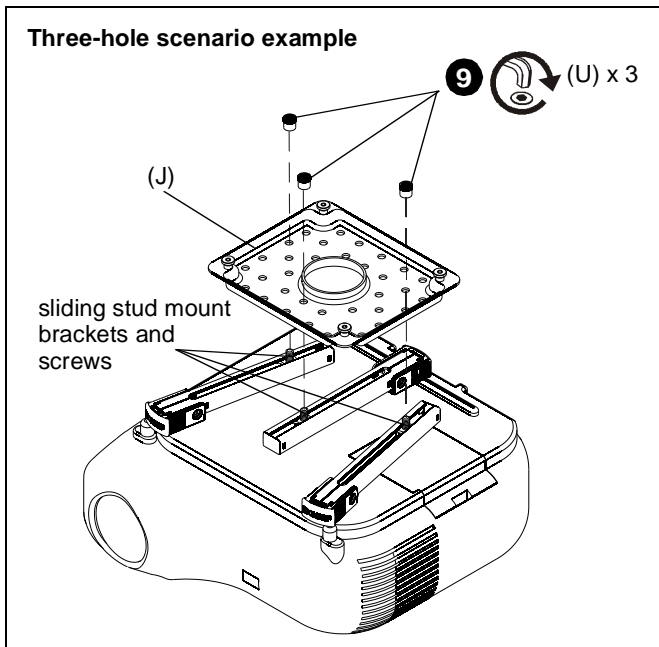
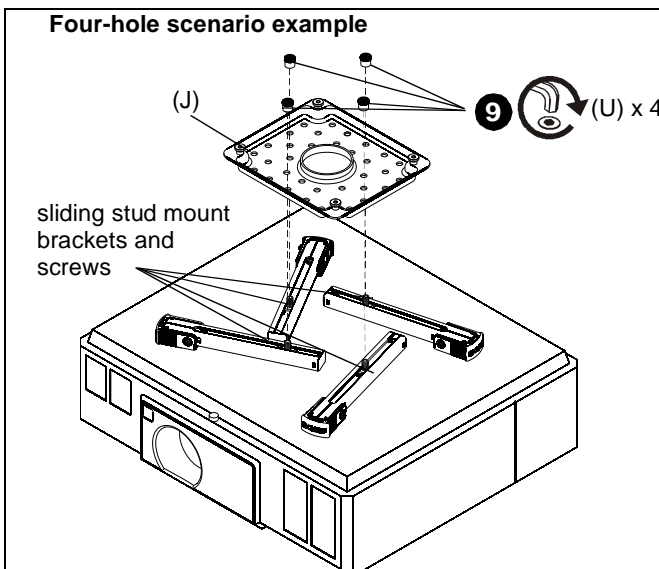

Figure 18
Figure 19
7. Maneuver legs so that sliding stud mount brackets and screws are towards the middle of the projector. (See Figure 18) and (See Figure 19)
8. Position sliding stud mount brackets and screws so that SLMU main plate (J) can be evenly mounted to legs. (See Figure 18) and (See Figure 19)
9. Use 1/4" hex key (V) to secure Allen nuts (U) to screws on sliding stud mounts. (See Figure 18) and (See Figure 19)